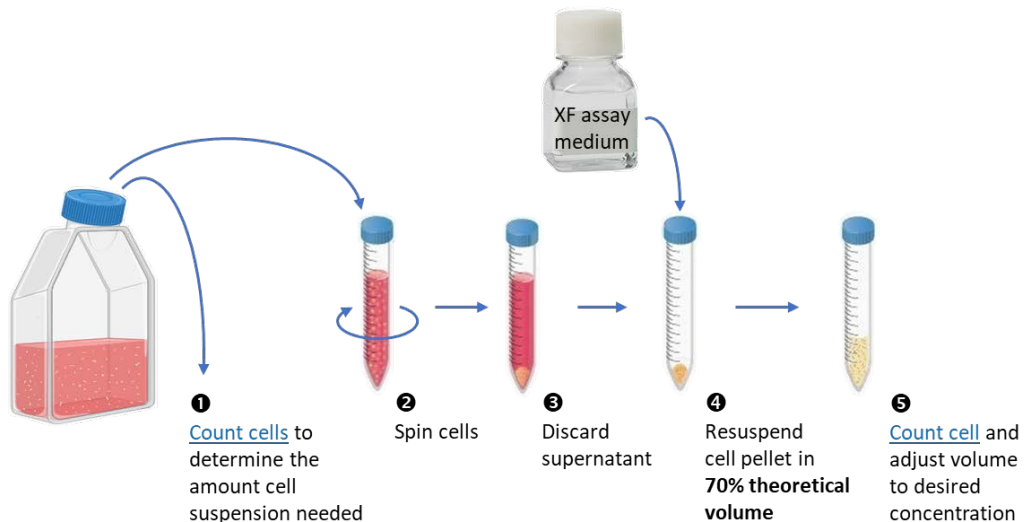

Figure 9. Suggested cell-preparation steps for cell seeding.
- Count cells twice: before centrifugation, and after resuspending cells in assay medium. The second counting in step 5 in Figure 9 is especially important to ensure accurate seeding density, and should not be omitted because some cells can be lost when discarding spent medium.